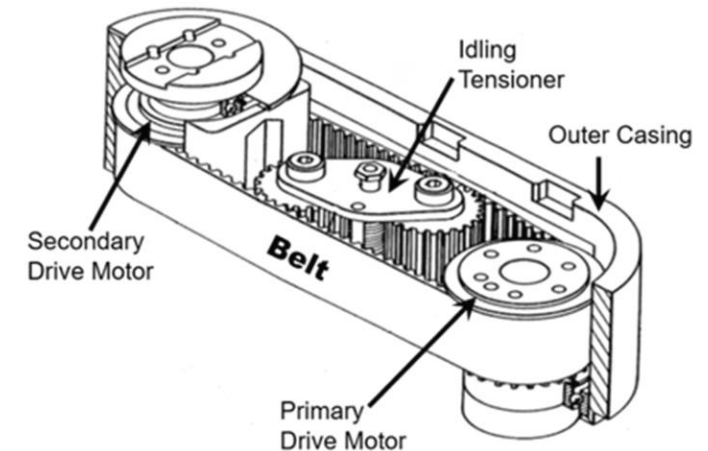

Figure 3 – Primary robotic arm assembly
- toothed belts engage toothed gears for rotating primary and secondary arms in response to the primary and secondary drive motors (Fig 3)
When in normal operation, the primary robotic arm assembly shown in Figure 3 should function as follows: